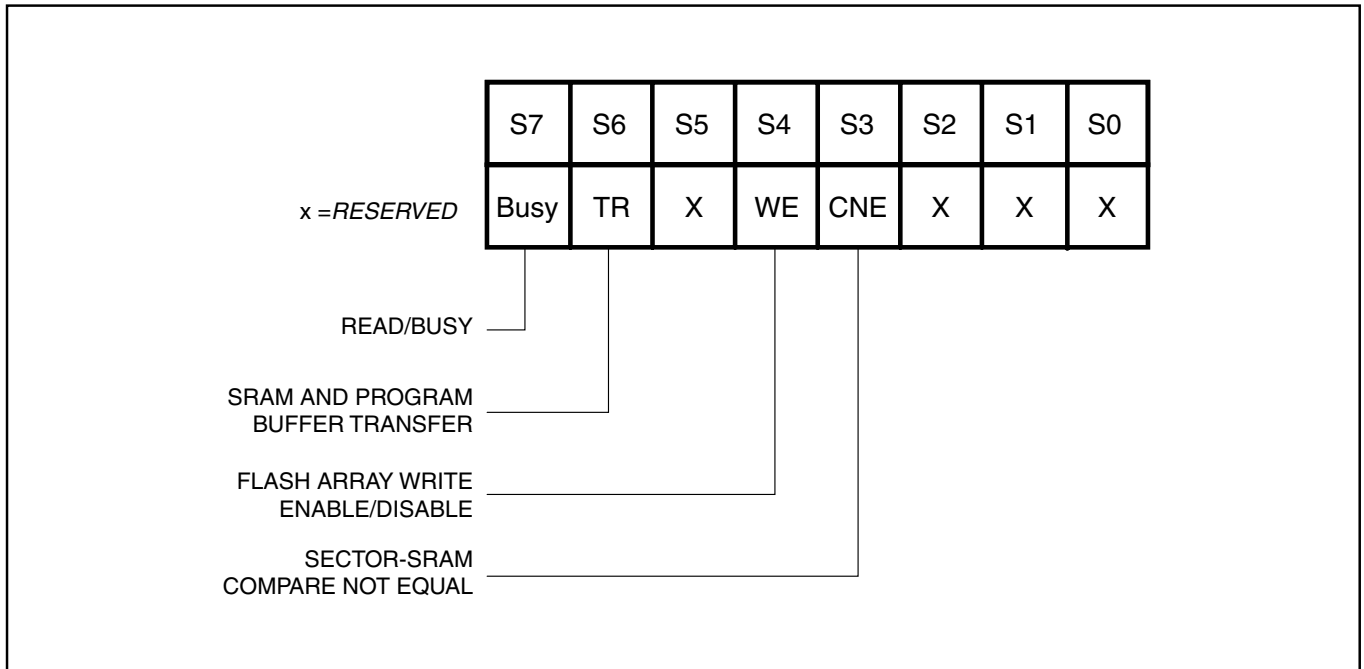

Figure 8. Status Register Bit Locations
The Status Register provides status of the Flash array’s Ready/Busy condition (R/B), transfers between the SRAM and program buffer (TX), Write-Enable/Disable (WE), and Compare Not Equal (CNE). The register can be read using the Read Status Register command (Figure 8).